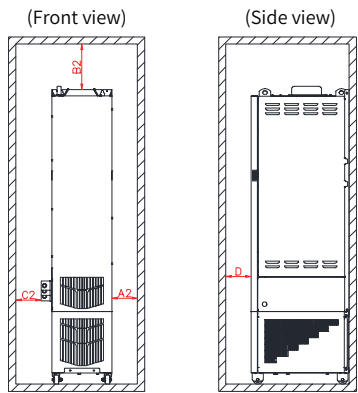

Figure 2-4 Installation clearance of a single drive (T10 to T12)
- ◆ Reserve the installation clearances as specified in Figure 2-4 to ensure sufficient space for heat dissipation of the AC drive. Take the heat dissipation of other equipment in the cabinet into consideration.